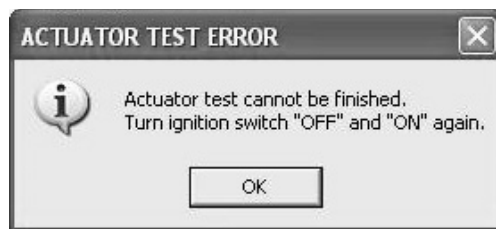

Fig.59
- If no response is made from the ECM during the interruption, the following dialog box (Fig.59) appears.